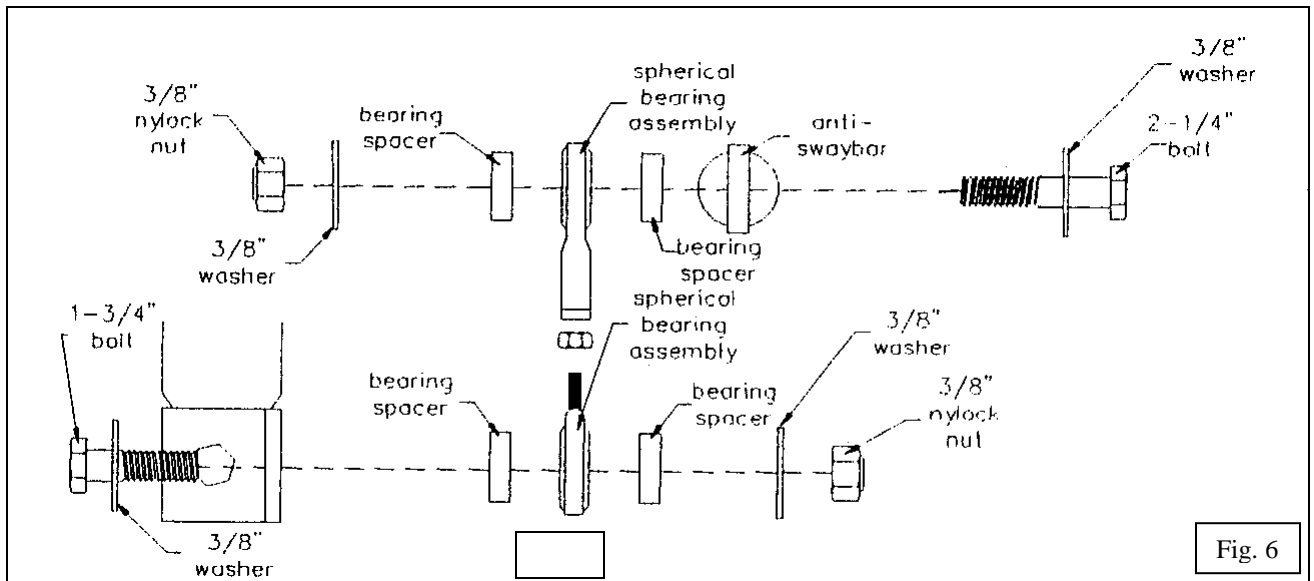

Fig. 6
10. Assemble the spherical bearings to the end link brackets as shown in Fig. 6. Tighten the nut to approximately 18 ft. lbs.